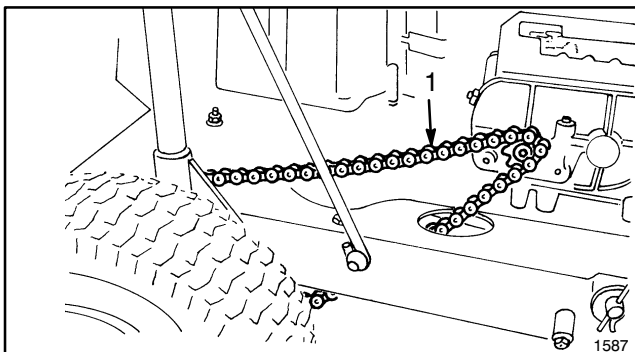
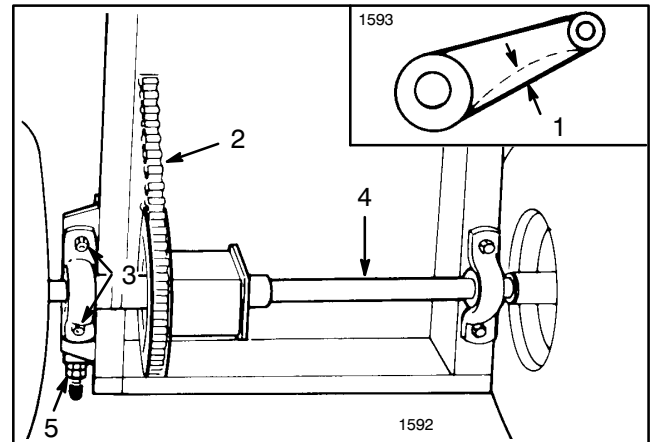

Figure 23
Figure 24
2. Check deflection of drive chain by lifting up and pressing down on chain with moderate pressure at mid span (Fig. 23). There should be 1/8 of an inch (3 mm) total deflection (Fig. 24). If deflection is not as specified, an adjustment is required—steps 3-13.
7. Loosen four flange nuts securing pillow blocks w/differential axle to the rider frame (Fig. 24).
8. Loosen rear jam nut on chain tensioner (Fig. 24).
11. Since axle must be parallel to rear of chassis, measure distance from center of pillow blocks to rear of chassis (Fig. 24). Difference between the two measurements must not exceed 1/8 inch. If difference exceeds 1/8 inch, axle is not parallel with chassis; therefore it must be readjusted.